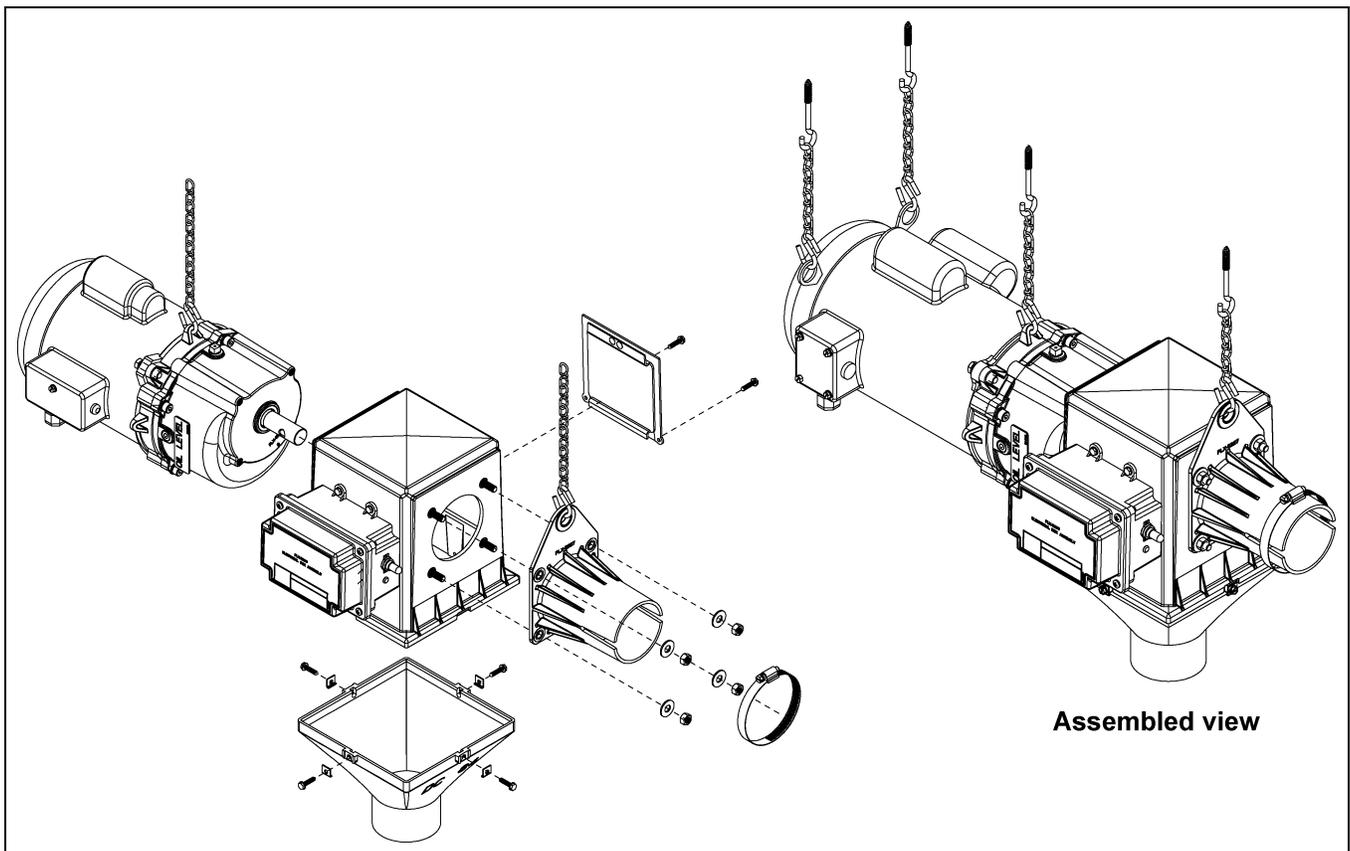

Figure 5Z Direct Drive/Power Unit
- Suspend power/control unit firmly from the ceiling as shown in Figure 5Z. Support holes are provided on the power unit and the control unit.